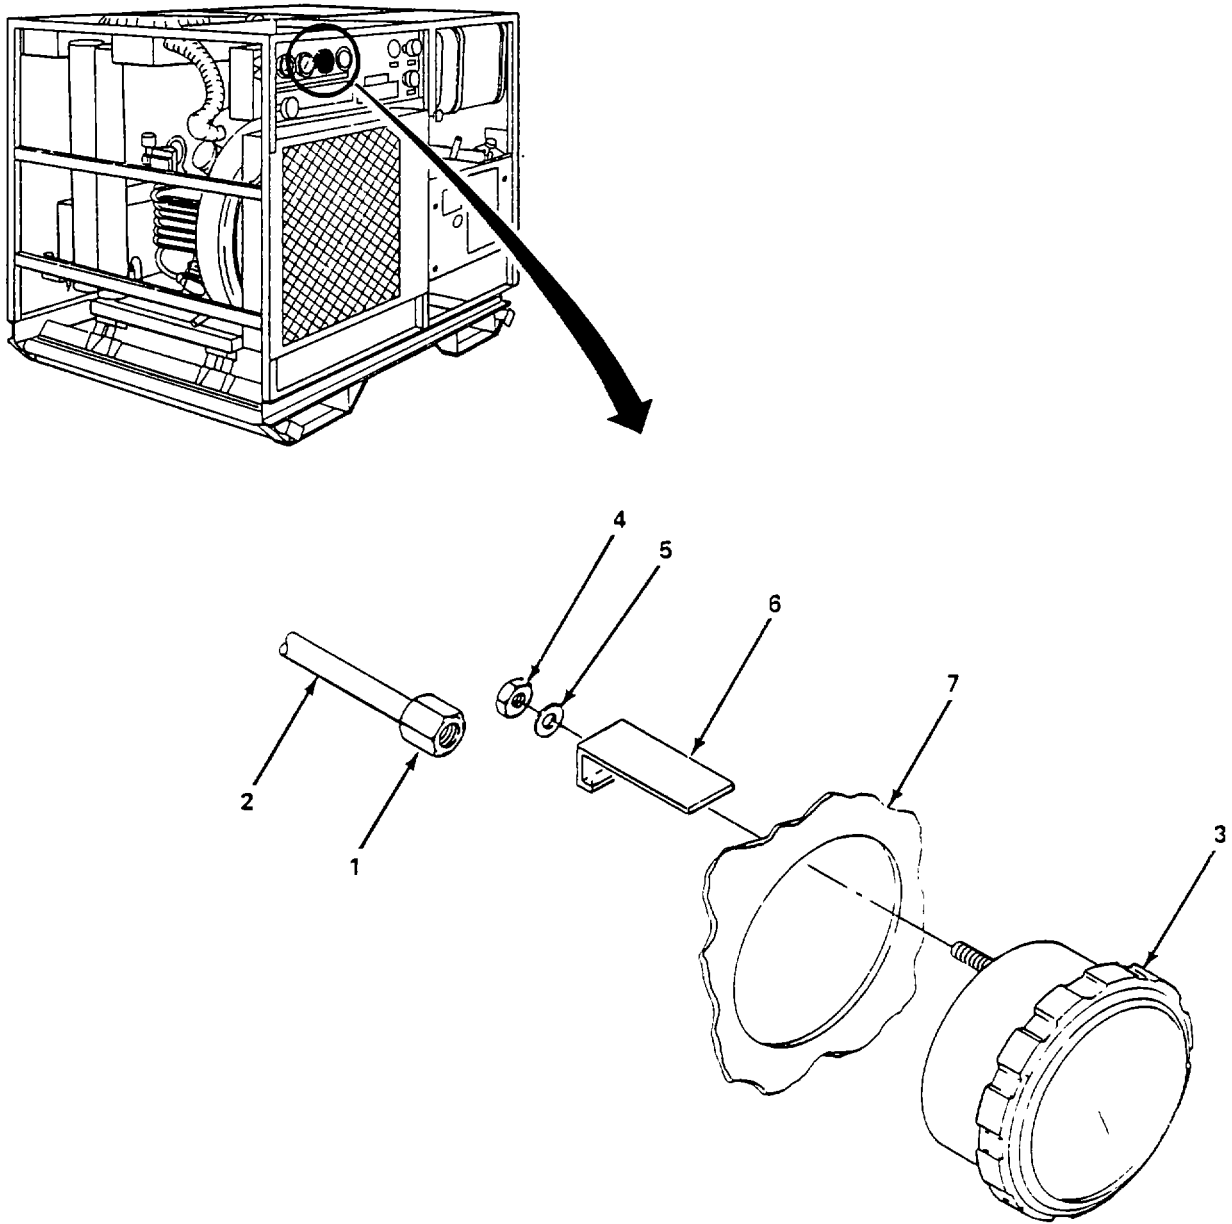

Figure 5-6. Oil Pressure Gage, Replace.
(4) *Oil pressure gage.* (figure 5-6)